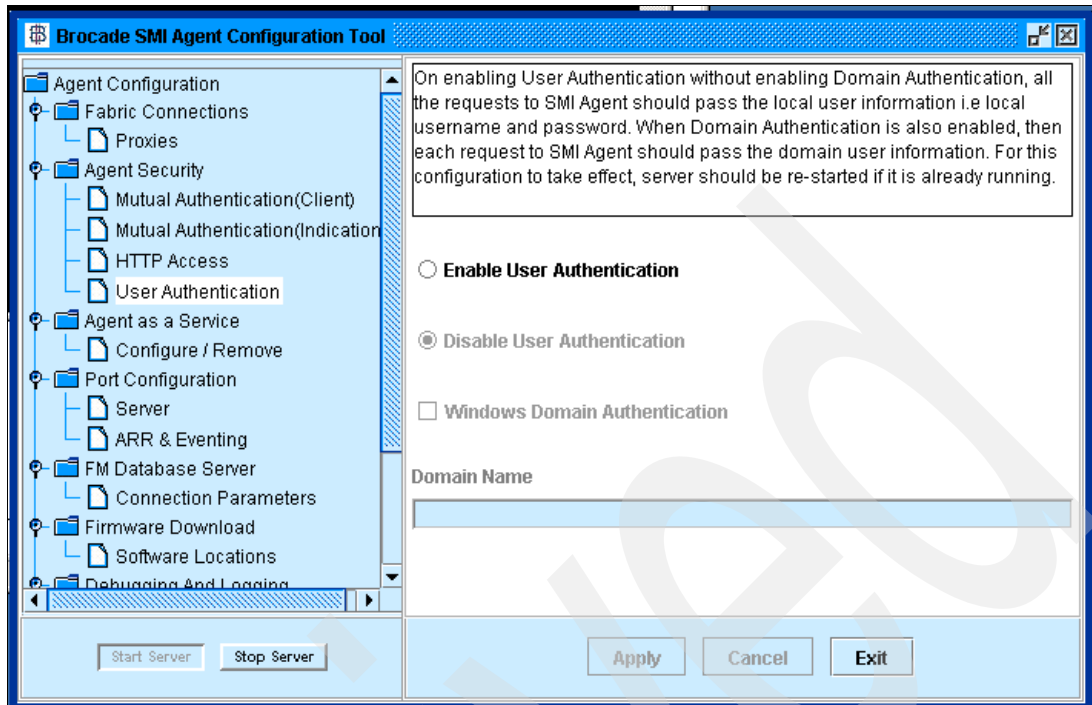

Figure 6-99 Brocade SMI Agent User Authentication
2. The Brocade SMI Agent Configuration Tool window opens. Select **Agent Security** → **User Authentication** (see Figure 6-99 on page 316).